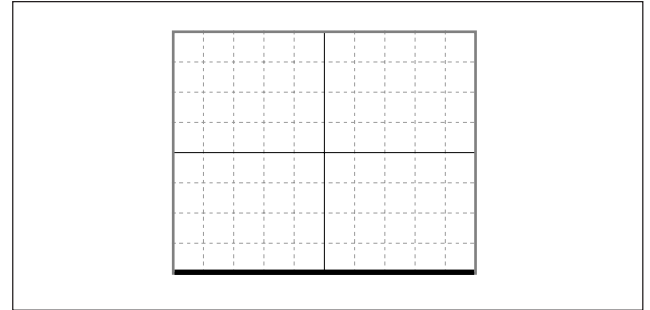

Fig. 4-6
- ① Set the TIME/DIV switch of the oscilloscope to 200 ms.
- ② Set the CH1 deflection sensitivity (VOLTS/DIV) of the oscilloscope to 0.2 V/DIV.
- ③ Set the input coupling switch of CH1 of the oscilloscope to GND, and adjust the oscilloscope to locate the signal at the bottom edge of the screen. (Fig. 4-6)